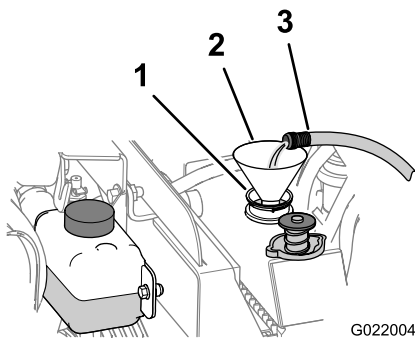

Figure 81
- B. Fill the radiator with clean water (Figure 81).